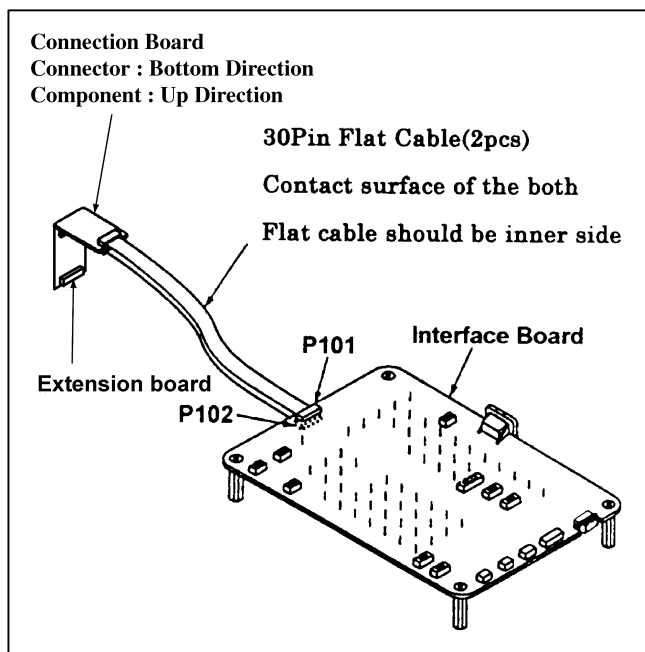

Figure M51
2. Connect the 2 pcs of 30 pin flat cables between P101 / P102 on the Measuring Board, and 2 connectors on the Connector Board. Make sure that the contact surface of 2 pcs of 30 pin Flat Cables are inner side and direction of the Connection Board is as shown in Figure M51. Then connect the Extension board.